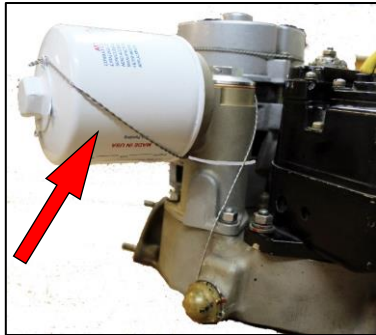

Figure 14
15. Install the oil filter in accordance with the filter manufacturer's instructions. Check that at least 3/8-inch of clearance exists between the oil filter and other parts in the engine compartment. Safety-wire the filter to a hole in the safety wire tab below the filter mount pad on the adapter, see Figure 14.